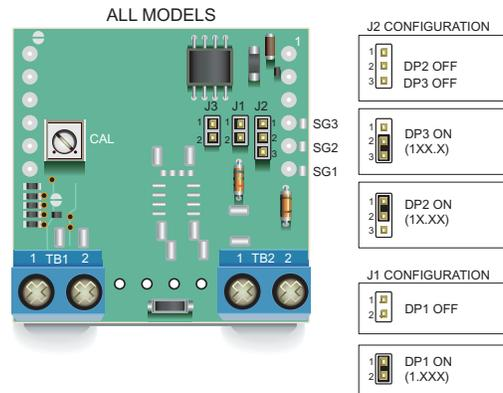

Figure 6. Decimal Point Selection Using J2 and J1 (Applies to All Models)
- Decimal Point Selection:** As shown in the Ordering Information guide, DCA5-20PC ammeters are multiple input-range devices. For example, with a 50mV input, DCA5-20PC-1-DC1 models can be configured to display "5.00", "50.0, or "500" Amps by simply removing or relocating decimal-point-selector jumper J2 (see Figure 6). Decimal points serve as placeholders only; they have no affect on displayed accuracy or resolution. If jumper J2 is not available, solder gaps SG1, SG2, or SG3 can be used to select DP1 ("1.XXX"), DP2 ("1X.XX"), or DP3 ("1XX.X"), respectively.